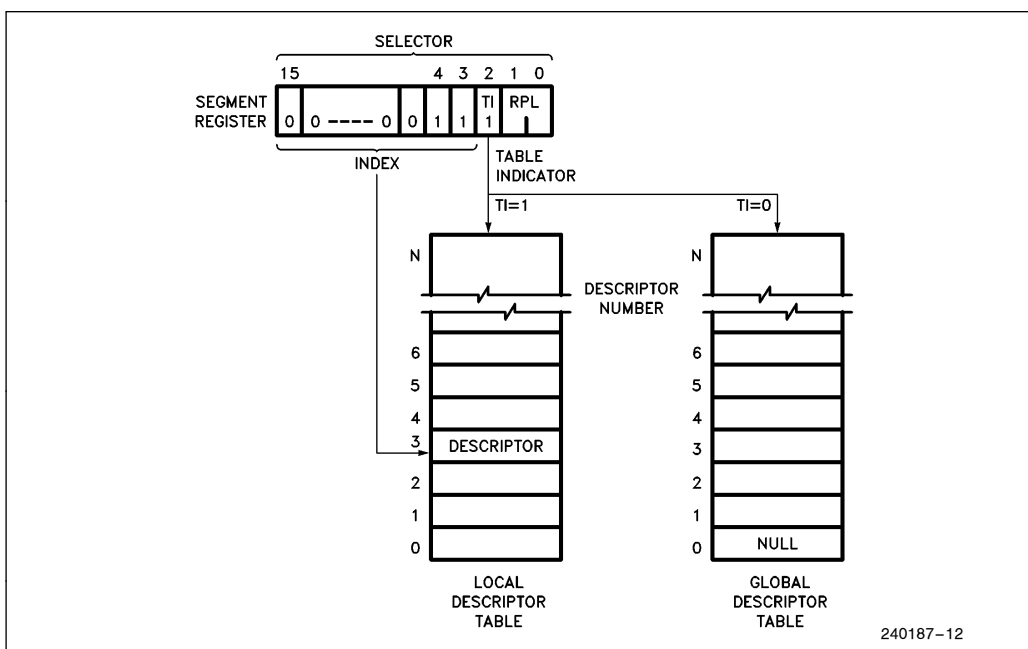

Figure 4.7. Example Descriptor Selection
A selector in Protected Mode has three fields: Local or Global Descriptor Table indicator (TI), Descriptor Entry Index (Index), and Requestor (the selector's) Privilege Level (RPL) as shown in Figure 4.7. The TI bit selects either the Global Descriptor Table or the Local Descriptor Table. The Index selects one of 8k descriptors in the appropriate descriptor table. The RPL bits allow high speed testing of the selector's privilege attributes.